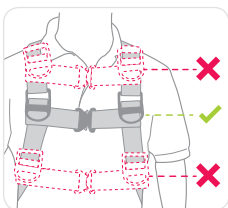

Figure 12
- The chest strap shall be squarely in line with the sternum (breast bone) (Figure 12).